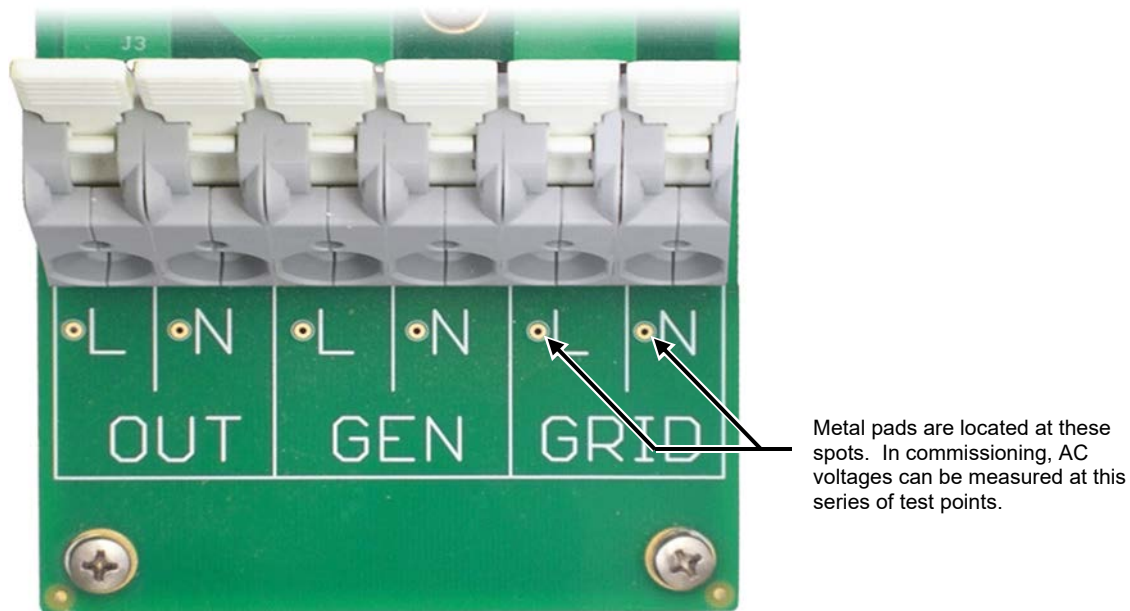

Figure 38 AC Test Points
4. Using a DVM, verify 230 Vac (or appropriate voltage) between the **L** and **N** **OUT** terminals. (See Figure 38 for AC test points.) The inverter is working correctly if the AC output reads within 10% of 230 Vac or the programmed output voltage.